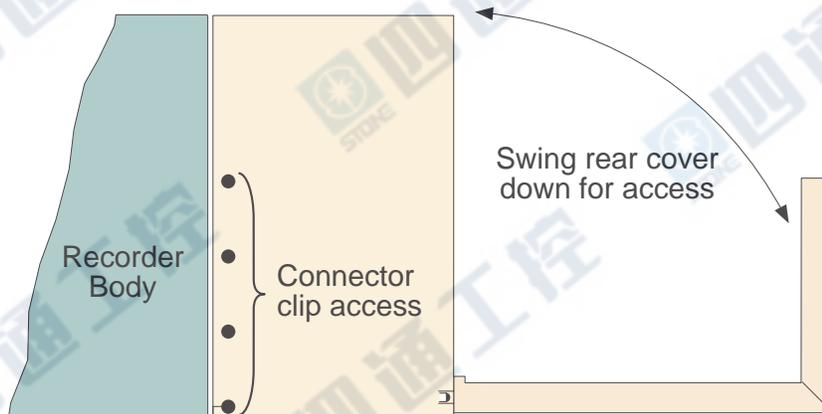
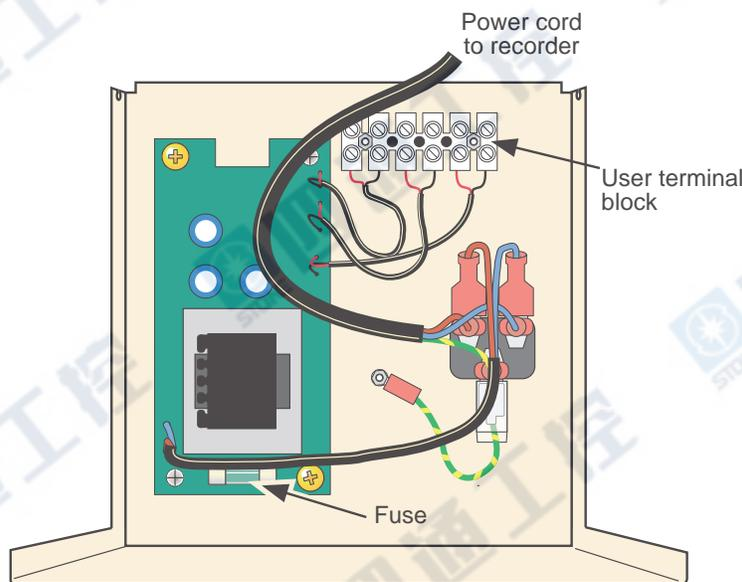

Figure 11.2.2b Opening the rear cover
Figure 11.2.2c Fuse and User terminal block locations
- 3 Open the cover (figure 11.2.2b) to reveal the circuit board, user connections etc. (figure 11.2.2c)
- 4 The fuse is located as shown in figure 11.2.2c. User wiring to the terminal block (figures 11.2.3a/b) can be carried out now, or the terminal cover can be removed for convenience, as described in steps 5 onwards below.
**Note:** Four apertures in each side of the terminal cover allow the user to actuate the clips which secure the i/o connectors to the rear panel of the recorder. This allows the i/o connectors to be removed if, for example, the recorder is to be removed from the panel for any reason. The positions of these apertures are shown in figure 11.2.2b (right-hand side shown; left-hand side similar).